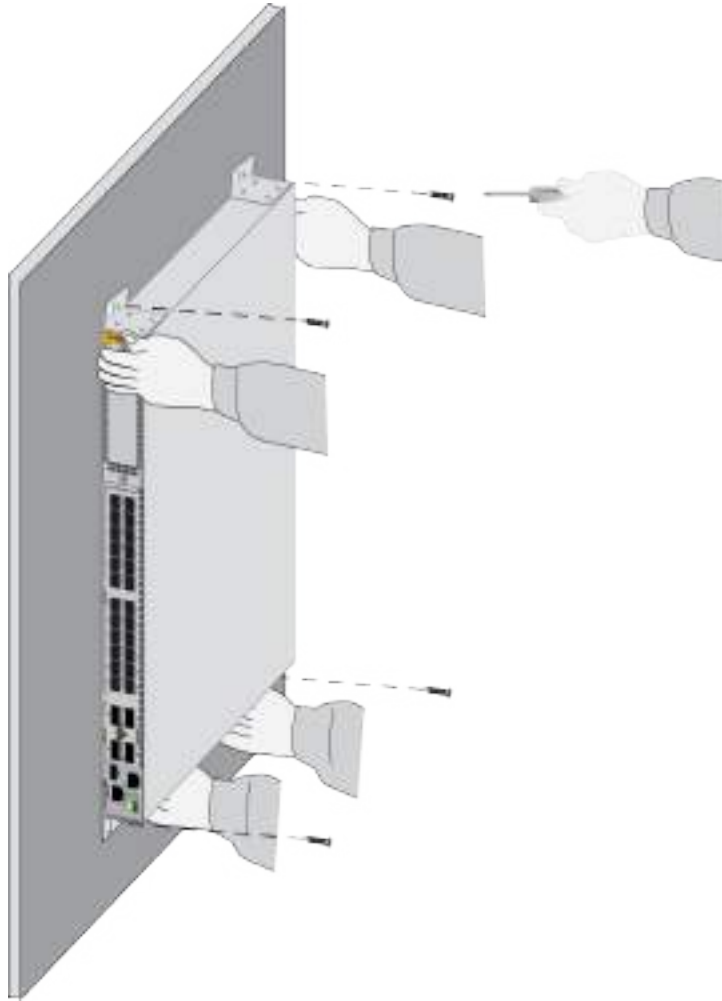

Figure 77. Installing the Switch on a Concrete Wall
7. Have two people hold the switch at the selected wall location while you secure it to the wall with the four provided screws. Refer to Figure 77.